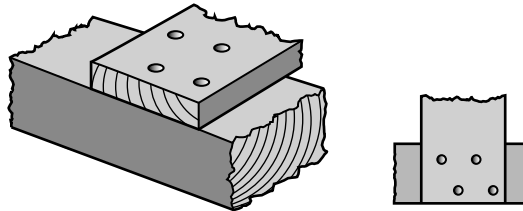

Fig. 4
- 7 Fig. 4 shows two pieces of wood nailed together.
- (a) Give **one** reason why the nails are arranged as shown in Fig. 4.